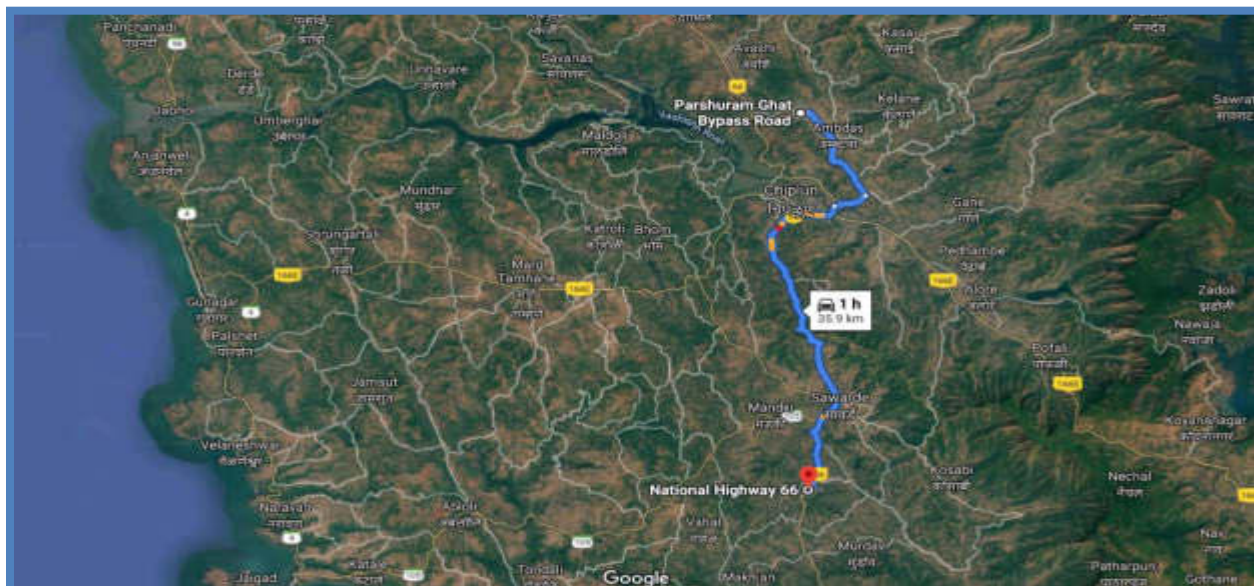

Figure 1: Project Location Parsuram Arawali Highways Private Limited (PAHPL)
4. The site of the four-lane project highway comprises section of National Highway-66 (erstwhile NH-17) commencing Km 205/400 to Km 241/300 in the State of Maharashtra, India. The total design length of the project road is about 34.450 Km. Alignment of the project is shown in Figure 1.